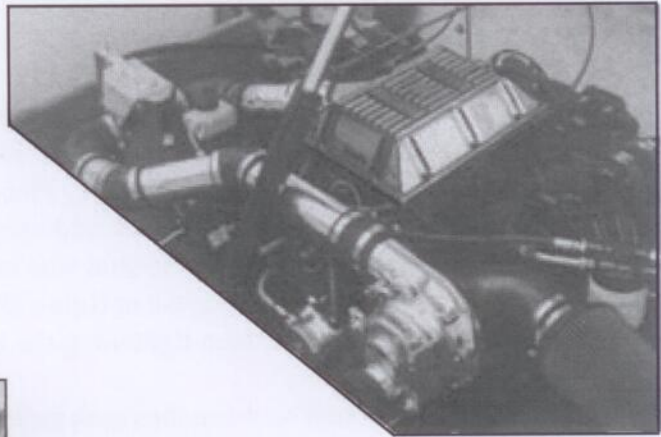

FIGURE E2
1. Review figures E2-E4 before starting. Place supplied 4" inlet elbow over ProCharger inlet. Position the elbow so that it points upward and/or outward to avoid the exhaust manifold and, if applicable, deck above when the filter is installed. If necessary, this elbow can be trimmed to obtain the proper clearance. Temporarily secure with a clamp. On the inlet elbow, position and mark the location of the breather fittings (the plastic 1/2" straight and 1/2" 90 deg fittings). The fittings should be positioned so that the straight 1/2" fitting routes to the port side breather and the 1/2" 90 degree fitting routes to the starboard side breather. Remove the elbow and drill the holes for the 1/2" fittings using a 7/16" drill bit. Insert the fittings and re-install the inlet elbow.
2. Determine where you are going to mount the intercooler. The intercooler has several mounting tabs attached to it. Find a place where these tabs can be used, it will be out of the way of the engine, and sits close to the level of the outlet of the ProCharger. Generally, you would like to keep it somewhat close to the engine to minimize the distance the charge air has to flow and the number of bends it has to make. Refer to figure E2 for an example. After you have determined the mounting location, bolt or screw the side tabs to the mounting surface. Included in the kit is a straight piece of strap. At the bottom of the intercooler is another tab. Bend and drill the strap so that it can be bolted to the bottom tab and to another mounting surface.